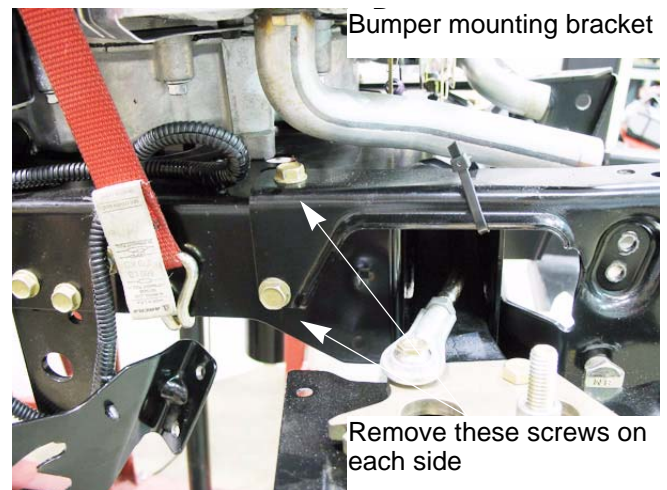

Figure 6A.92
6. Remove the pivot bar shoulder bolts. See Figure 6A.93.